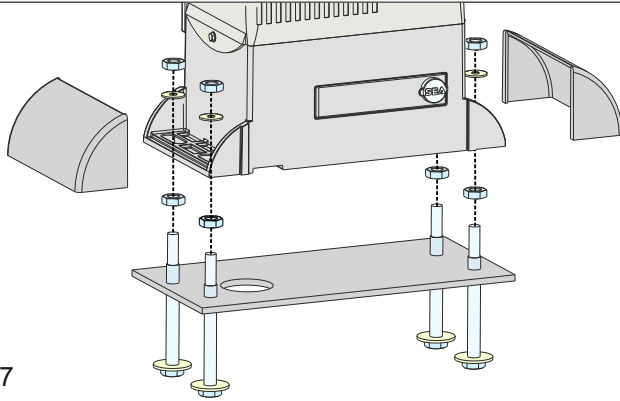
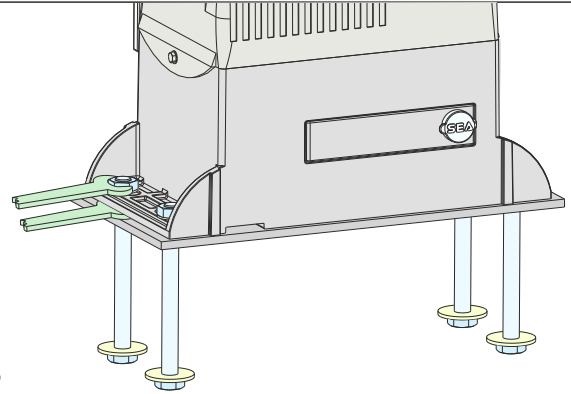

Fig. 7
Fig. 8
- 4.1. Fix the gearmotor to the foundation plate by the use of the supplied screws - Fig. 7, then adjust its lateral position and height - Fig. 8 - to comply with the dimensions mentioned in Fig. 5
- 4.2. Insert the two interlocking side covers - Fig. 7